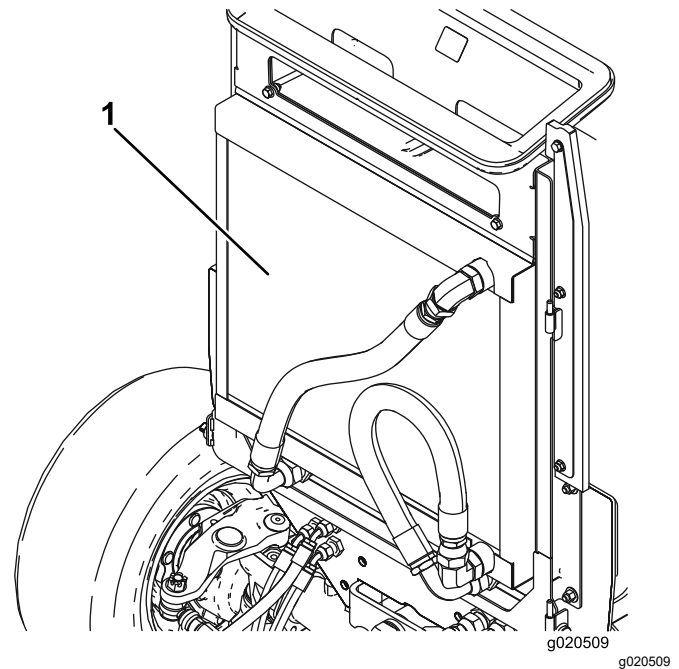

Figure 73
3. Thoroughly clean both sides of the oil cooler and the radiator with compressed air (Figure 73).